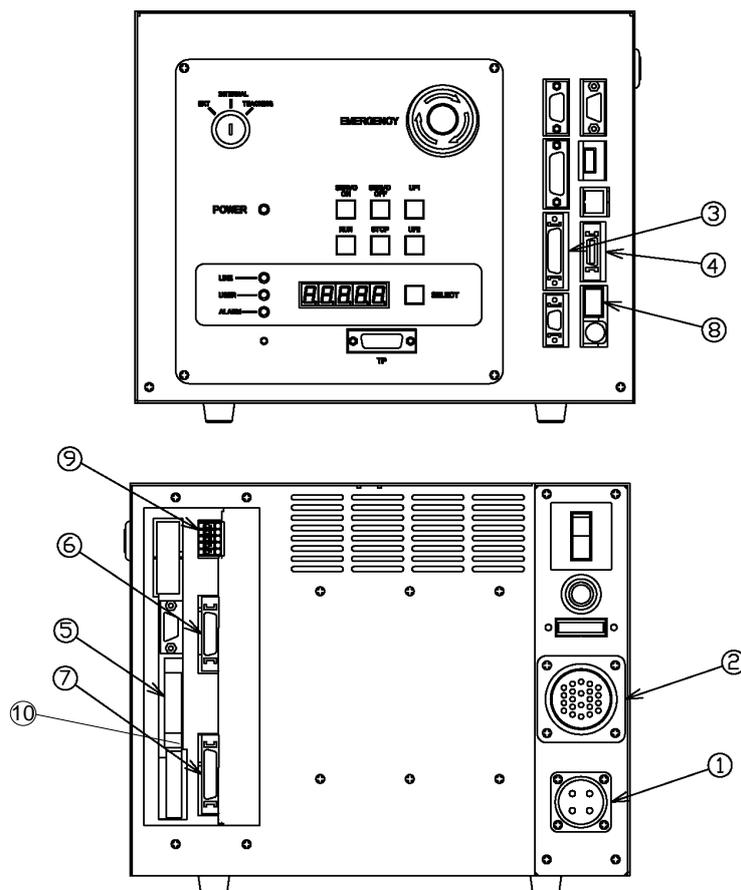

Fig. 15.1 Robot controller connector arrangement (TS3000 and TS3000E)
The cables connected to the robot controller are shown in Fig. 15.1.
15.1.2 Connecting the Power Cable "ACIN" (① of Fig. 15.1) (plug connector attached)
The connector is ACIN (① of Fig. 15.1).
15.1.3 Connecting the Motor Cable "MOTOR" (② of Fig. 15.1) (THL300 to THL1000)
15.1.4 Connecting the Encoder Cable "ENC" (③ of Fig. 15.1)
The connector for connecting the encoder cable is ENC (③ of Fig. 15.1).
15.1.5 Connecting the Robot Control Signal Cable "HAND" (④ of Fig. 15.1)
The connector for connecting the robot control signal cable is HAND (④ of Fig. 15.1).
15.1.6 Connecting the Brake Signal Cable "BRK" (⑧ of Fig. 15.1)
The connector for connecting the brake signal cable is BRK (⑧ of Fig. 15.1).
15.1.7 Connecting the External Input/Output Power Cable "EMS" (⑩ of Fig. 15.1)